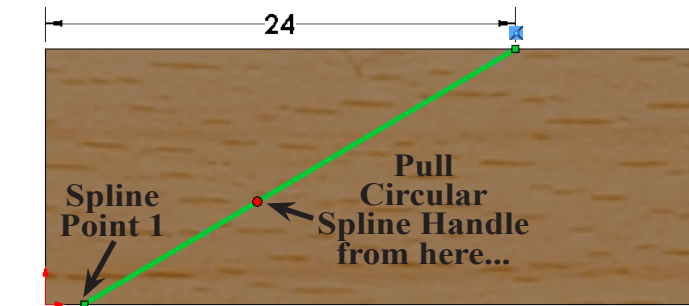
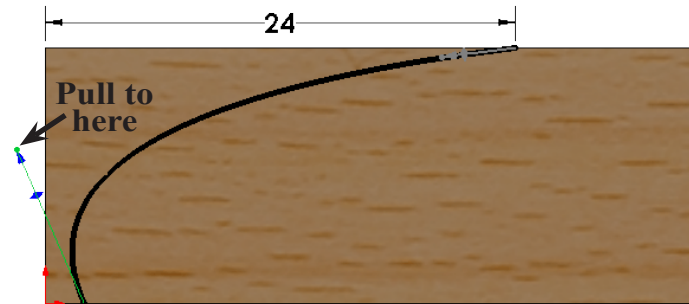

Fig. 5
Fig. 6
Step 6. Click spline to select it. Grab **Circular Spline handle** (small gray dot) of **Spline Point 1** and pull handle out to left, **Fig. 5** and **Fig. 6**. To find the Circular spline handle, start your cursor at the bottom Spline Point, Spline Point 1 and move cursor up along the spline. Circular Spline handle will highlight as a red circle.